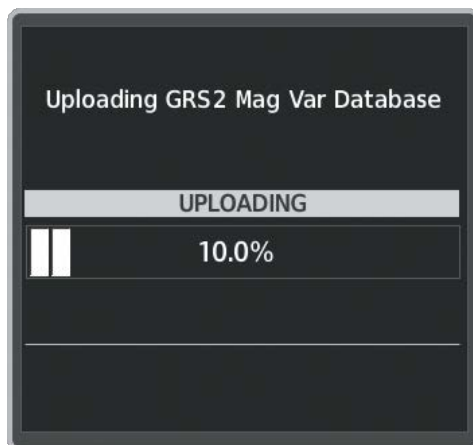

Figure B-11 Uploading Database to GRS2
- 3) With 'OK' highlighted, press the **ENT** Key on the MFD. A progress monitor is displayed as shown in Figure B-11. When the upload is complete, the system is ready for use.